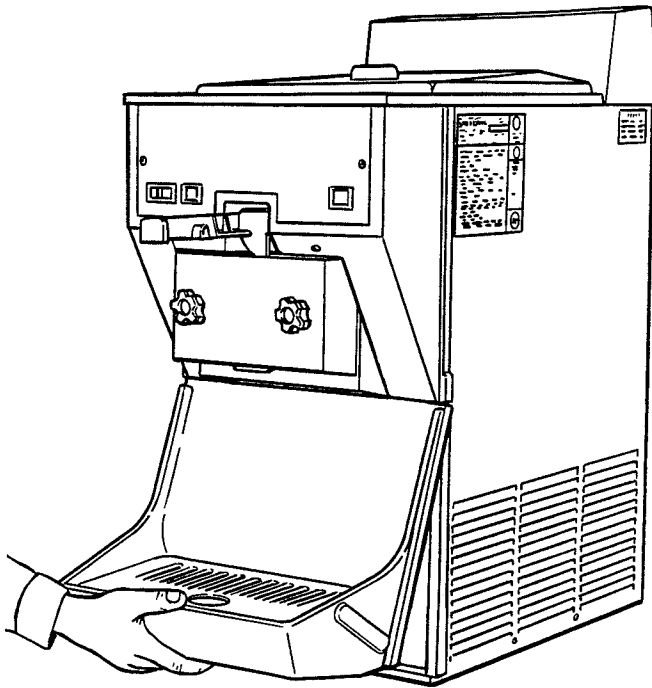

Figure 6. Installing Tray and Cover
- F. Install the drip tray, cover and other miscellaneous parts on the freezer (Fig. 6).